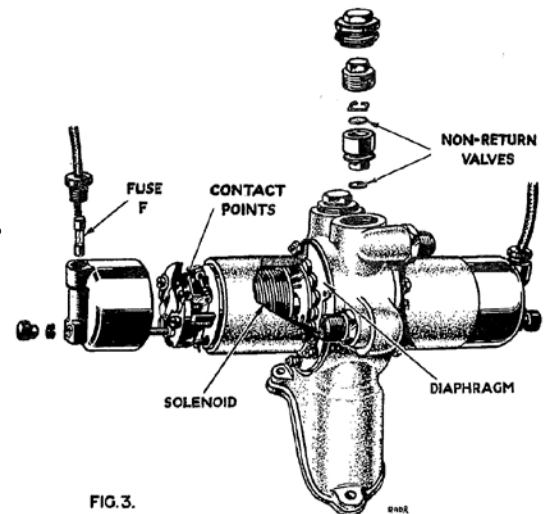

FIG. 3.
- (f) Switch on ignition and the petrol pumps should start to purr. If they do not, make sure current is getting to pumps by checking with 12 volt bulb connected between the brass bush inside the pump and covers (removed) and earth. The bulb should light; if not, examine small fuse F. in each cover (Fig.3.).